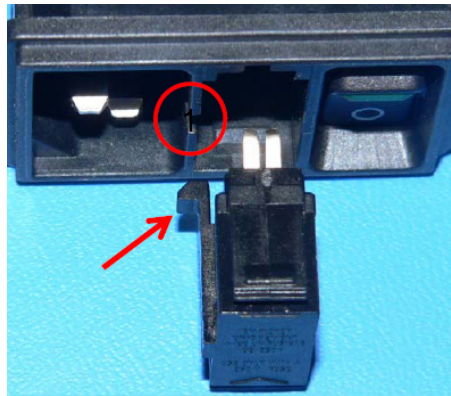

FIGURE 20: GUIDE TAB LOCATION
4. Align the fuse cartridge so the guide tab is towards the power entry side as shown in Figure 20.